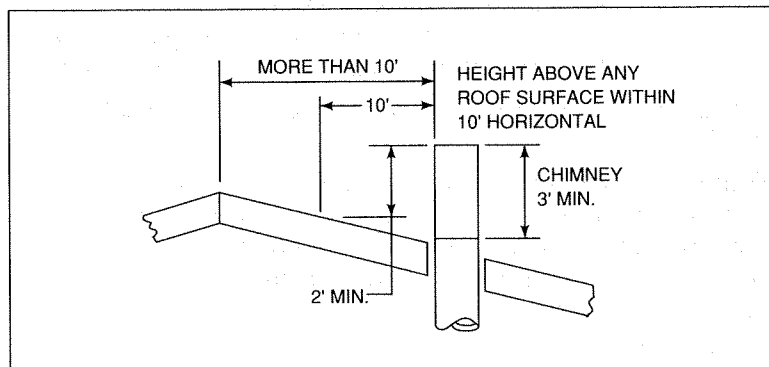

Figure 9
2. If the horizontal distance from the side of the chimney to the peak of the roof is more than 10 feet, a chimney height reference point is established on the surface of the roof a distance of 10 feet from the side of the chimney in a horizontal plane. The top of the chimney must be at least 2 feet above this reference point, but never less than 3 feet in height above the highest point where it passes through the roof. See Figure 9.